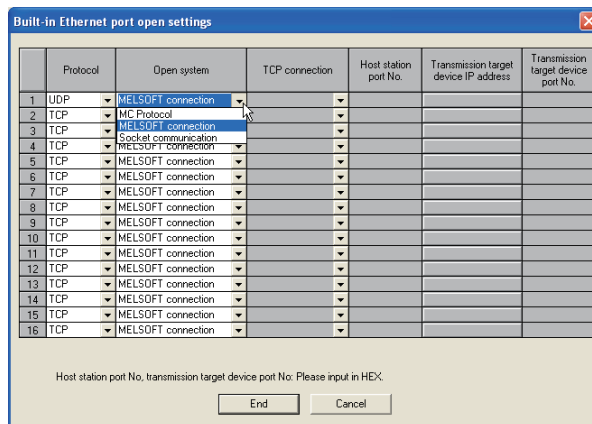

Figure 3.4 Built-in Ethernet port open settings screen
2) Set the connection for GX Developer (MELSOFT connection). (Refer to Figure 3.4)